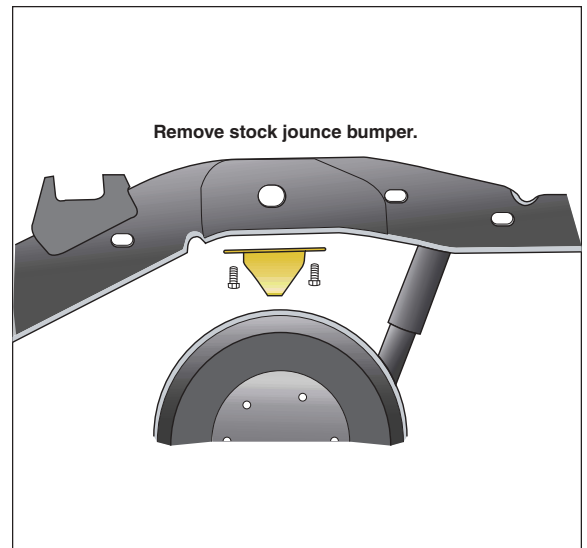

Figure 2
1. Remove the two bolts securing the jounce bumper in place and discard (Figure 2).
If the vehicle has a rough and harsh ride it may be due to either too much pressure or not enough (fig. 2). Try different pressures to determine the best ride comfort.